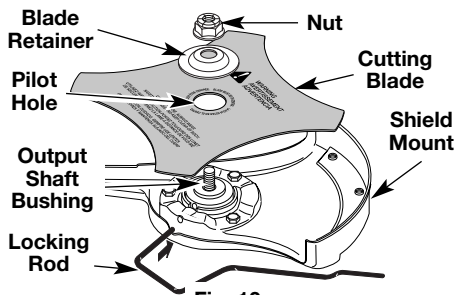

Fig. 10
4. Place the cutting blade on the output shaft bushing (Fig. 10).
5. Make sure that the cutting blade is centered on the pilot step and sitting flat against the output shaft bushing (Fig. 10).